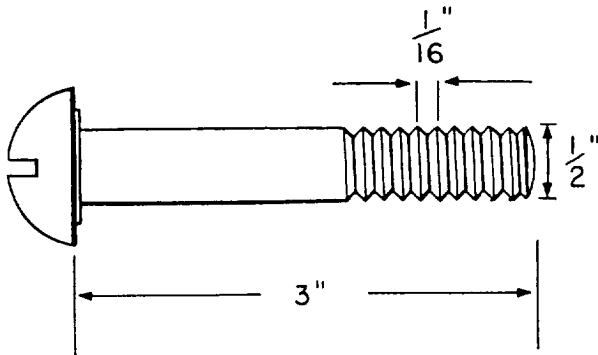

Figure 2A
- 2-1. What is the pitch of the screw in figure 2A?